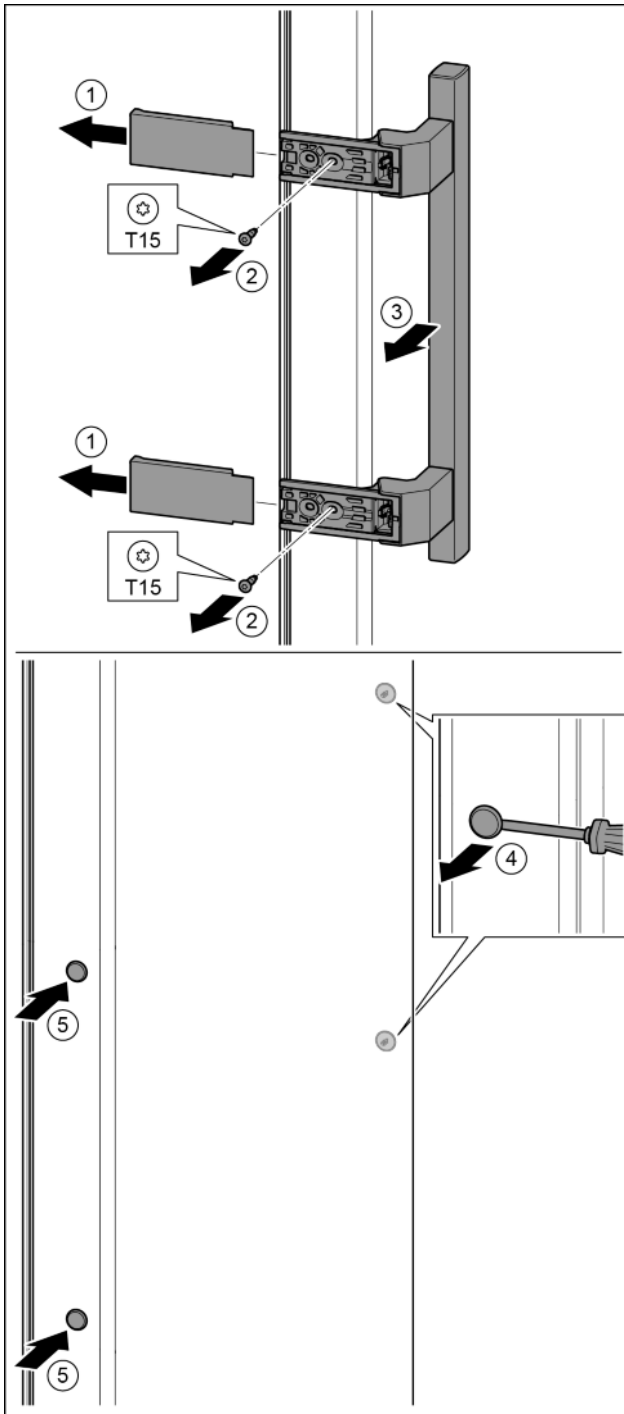

Fig. 15
- ▶ Remove the cover. Fig. 15 (1)
- ▶ Remove the screws with the T15 screwdriver. Fig. 15 (2)
- ▶ Remove the handle. Fig. 15 (3)
- ▶ Carefully lift up the plugs and remove them with a slotted screwdriver. Fig. 15 (4)
- ▶ Insert the plugs again on the other side. Fig. 15 (5)